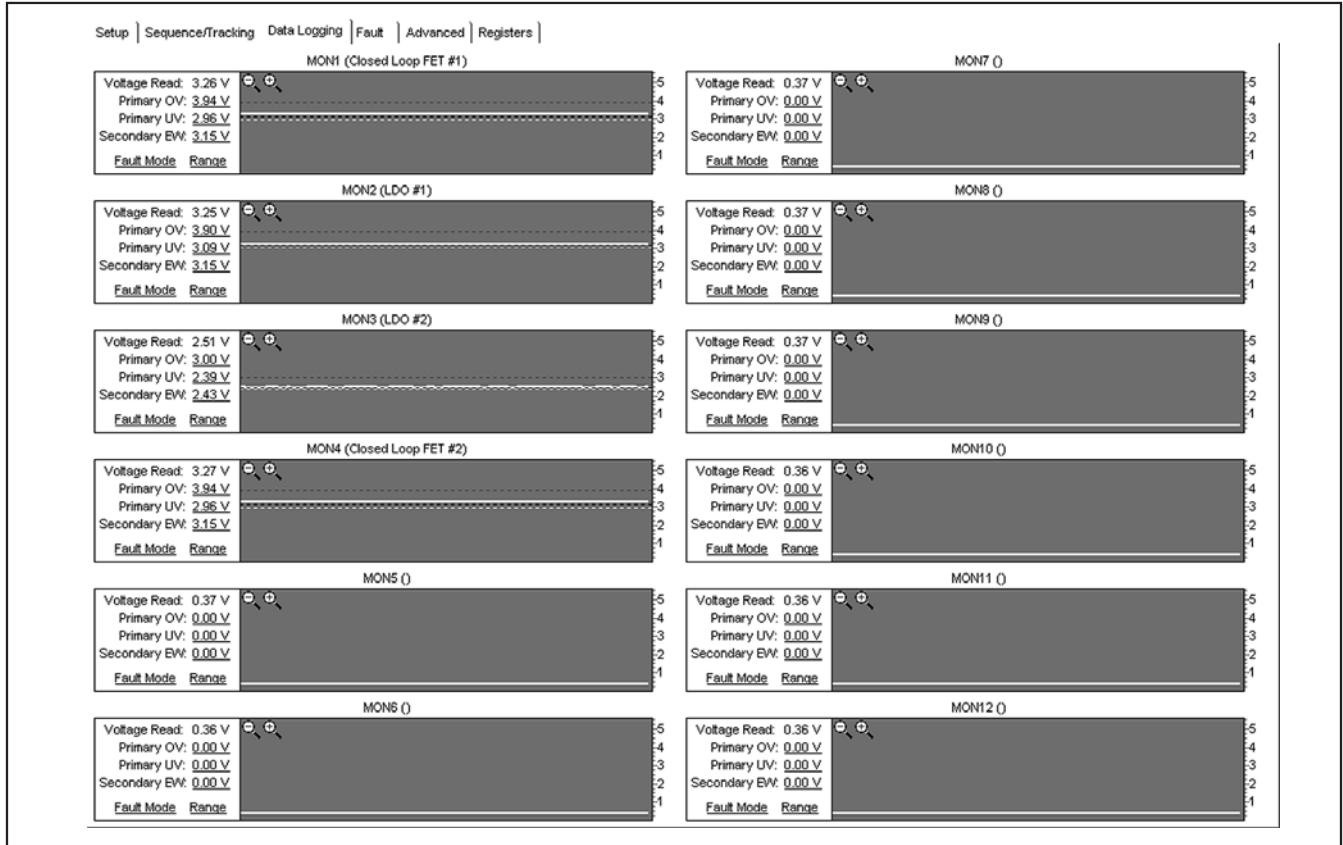

Figure 5. Data Logging Tab
The **Data Logging** tab (Figure 5) monitors the voltage at each MON\_ input on chart recorder graphs. Each graph shows the MON\_ input being monitored, the name of any associated power supply, the primary overvoltage (OV) and undervoltage (UV) thresholds, and the configurable early warning (EW) threshold. The dotted lines represent the voltage thresholds, and the solid green line is the monitored voltage. Items changed on this tab are immediately written to the registers of the part.